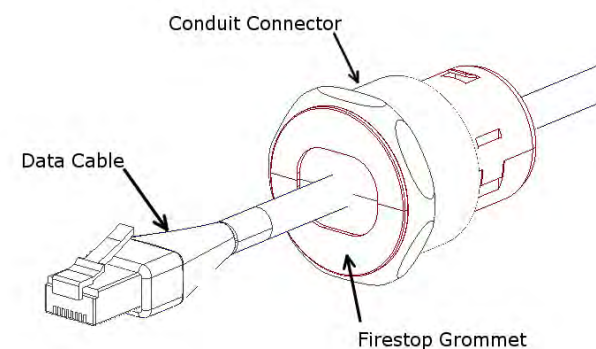

Figure 3 - Firestop Grommet Installation
Step 3 – Place the tile back in the ceiling place the tile bridge on top of the tile. When placing the tile bridge above the tile, it should be placed so the spring retainers are visible and aligned with the 11" width of the tile cutout. Attach the hanger wires to the four tabs located on the corners of the tile bridge and then to a permanent structure within the ceiling. Slide the cables through the conduit connector and snap the Firestop Grommet over the cables (Figure 3). Make sure there is enough slack in the cabling to attach to the access point.